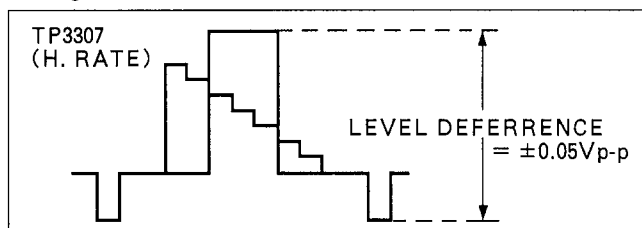

Figure E12
2. Adjust VR3202 so that the playback Y level becomes the same (\pm 0.05Vp-p) as the stop (EE) Y level as shown in Figure E12.